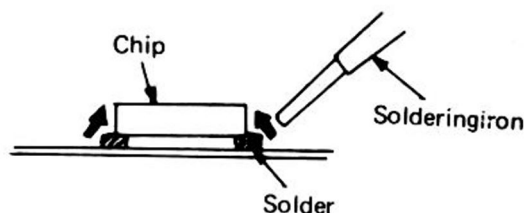

Fig. 13
3. Solder circuit board first and then solder chip in the direction of the arrow as shown in fig. 13.